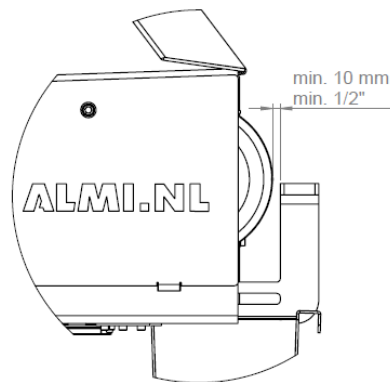

Figure 3.3-1: Distance between tool rest and belt.
- Position the tool rest always at least 10 mm away from the belt, Figure 3.3-1.
When starting the pipe notcher position the tool rest always a minimum of 10mm from the pulley. See Figure 3.3-1.